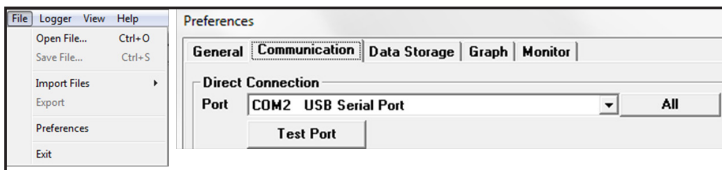

Figure 18 - SpecWare port selection screen
- Connect the PC direct-connection cable to the "PC" port on the Retriever. The COM port is selected in the File - Preferences - Communication tab - Direct Connection field (Figure 18).